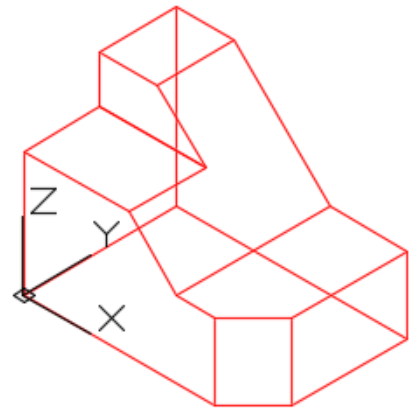

Figure Step 4
Step 4 Set the current view to SE Isometric. Your wireframe model should appear as shown in the figure. (Figure Step 4)